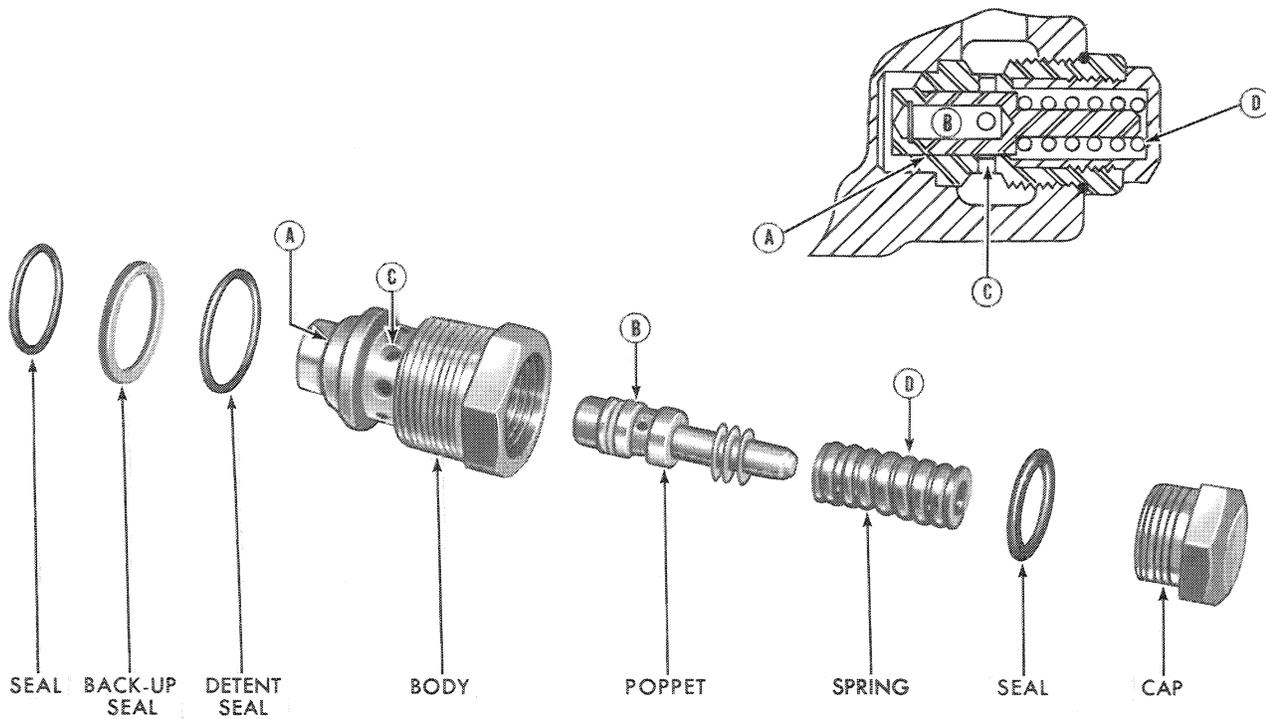

Figure 25
The system relief valve, Figure 25, is located between the high-pressure passage and the low-pressure passage. When a spool is moved, oil is directed to one end of the cylinders. If the cylinders stall, are restricted, or reach the limits of their travel, oil pressure builds in the system. To protect against the pressure increase, the valve opens and allows high-pressure oil to return to sump.
In operation, oil entering the inlet port (A) is below the pressure required to unseat the relief valve poppet (B), Figure 25. When system pressure exceeds the setting of the relief valve (see "Specifications", page 108), the poppet moves off its seat to allow oil to flow into the internal area of the valve and out the radially drilled holes (C) in the relief valve body, which connect to the sump passage. As system pressure decreases, the spring force causes the poppet to seat.